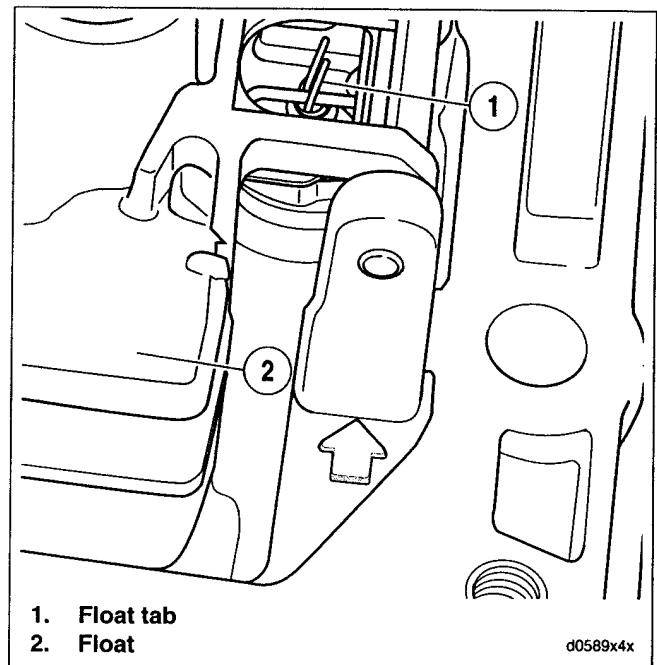

Figure 4-9. Carburetor Float Tab
5. See Figure 4-9. If measurement is not within 0.413-0.453 in. (10.49-11.51 mm), carefully bend float tab (1) to position float at proper level.